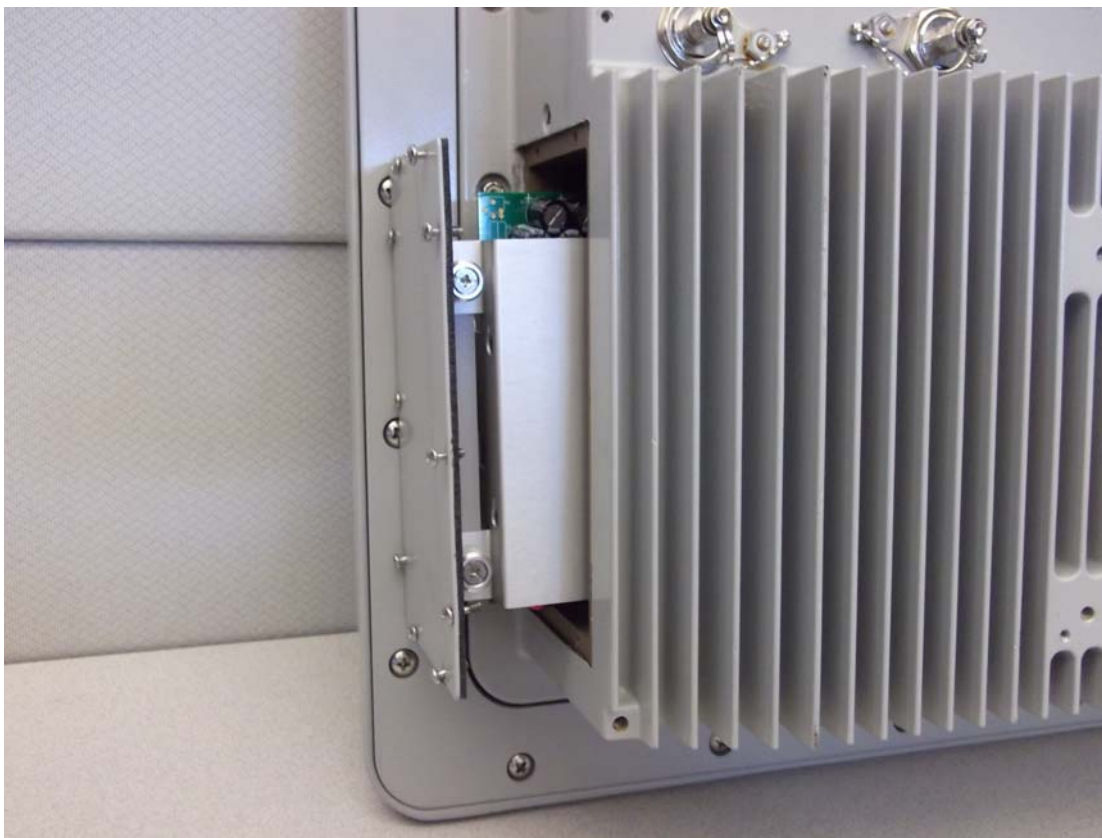

Figure 7.8 Power Supply Cover Plate
1. Loosen the ten (10) #4-40 captive screws securing the power supply cover plate in place. See Figure 7.8.